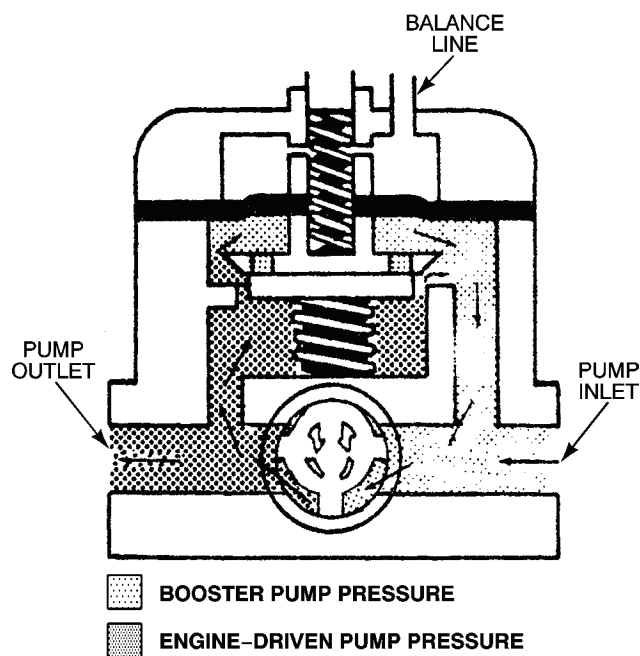

Figure 2-5. Engine-Driven Fuel Pump.
(2) Hand. The hand, or wobble, pump is frequently used on light aircraft. It is generally located near other fuel system components and operated from the cockpit by suitable controls. No current Army aircraft have hand pumps.
(3) Engine-driven. The engine-driven pump is usually mounted on the accessory section of the engine. The purpose of the engine-driven fuel pump is to deliver a continuous supply of fuel at the proper pressure at all times during engine operation. The pump widely used at the present time is the positive-displacement, rotary-vane-type pump as shown in figure 2-5.